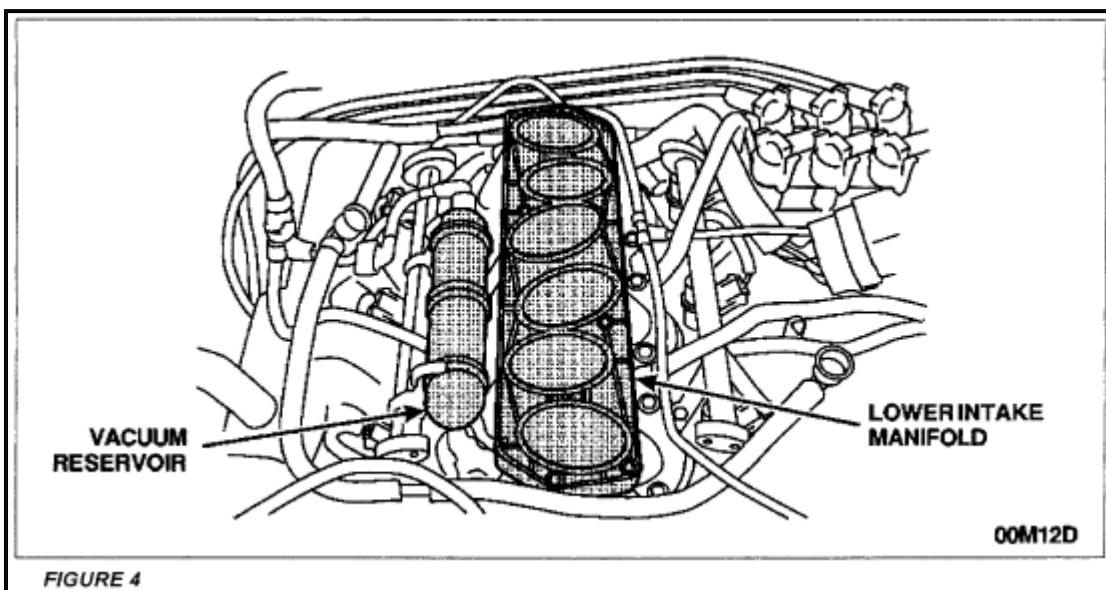

FIGURE 4
11. If equipped, position the engine vacuum reservoir aside. See Figure 4.
12. Remove the lower intake manifold. See Figure 4.